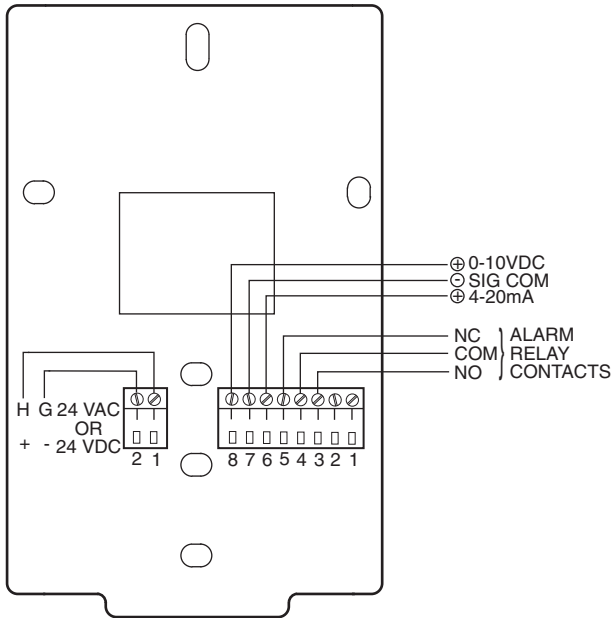

Fig. 16 — CO₂ Sensor, Wiring Connections
- Using field-supplied wire and terminals, connect J8-8 from the CO₂ sensor to the + terminal on the front of adapter part no. Q769C1007. Connect J8-7 to the - terminal. See Fig. 16 and 17.